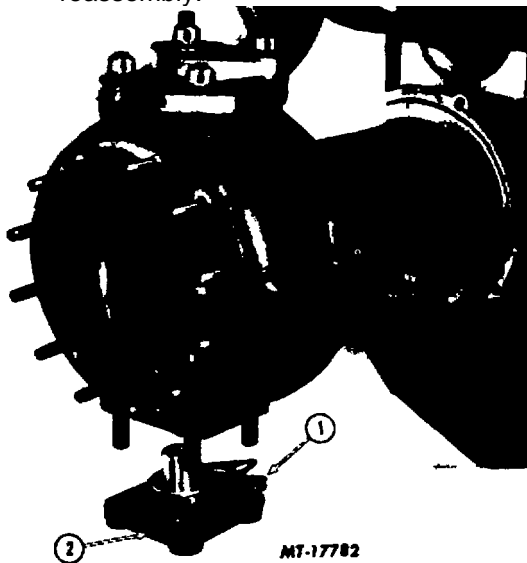

Fig. 6. Trunnion Cop and Shim Pack
6. Remove lower trunnion cap and shim pack (Fig. 6). Retain and mark shim pack for reassembly.